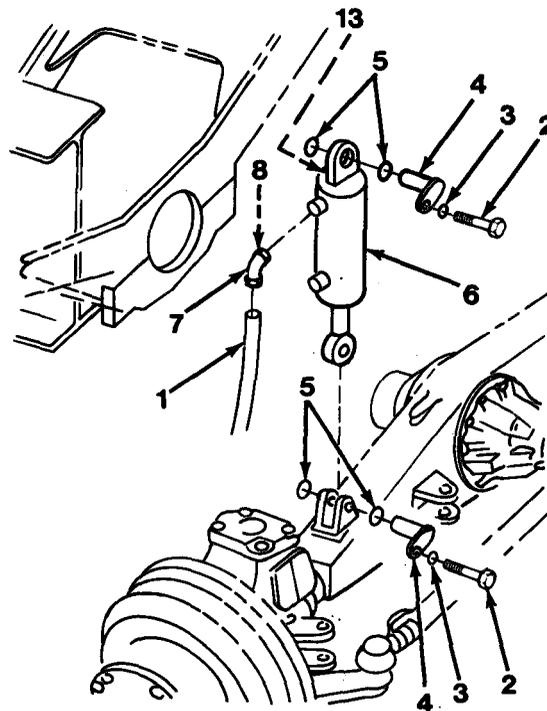

Figure 13-1
5. Disconnect and cap hose (1, Figure 13-1).